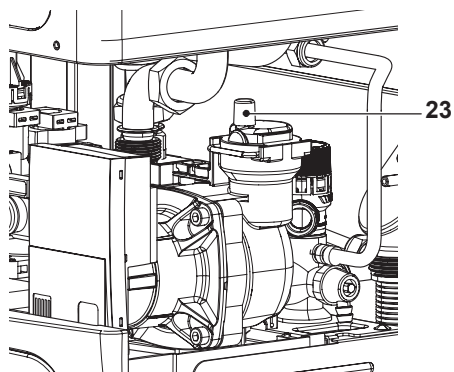

Fig. 7.2
- Unscrew the cap on the automatic air purger valve 23 in Fig. 7.2 one full turn and leave open permanently.